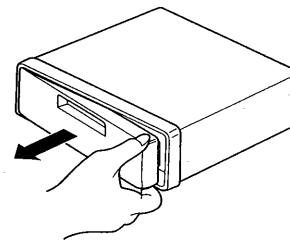

Fig. 21
2. To remove the front panel, pull its right-hand side toward you. (Fig. 21)